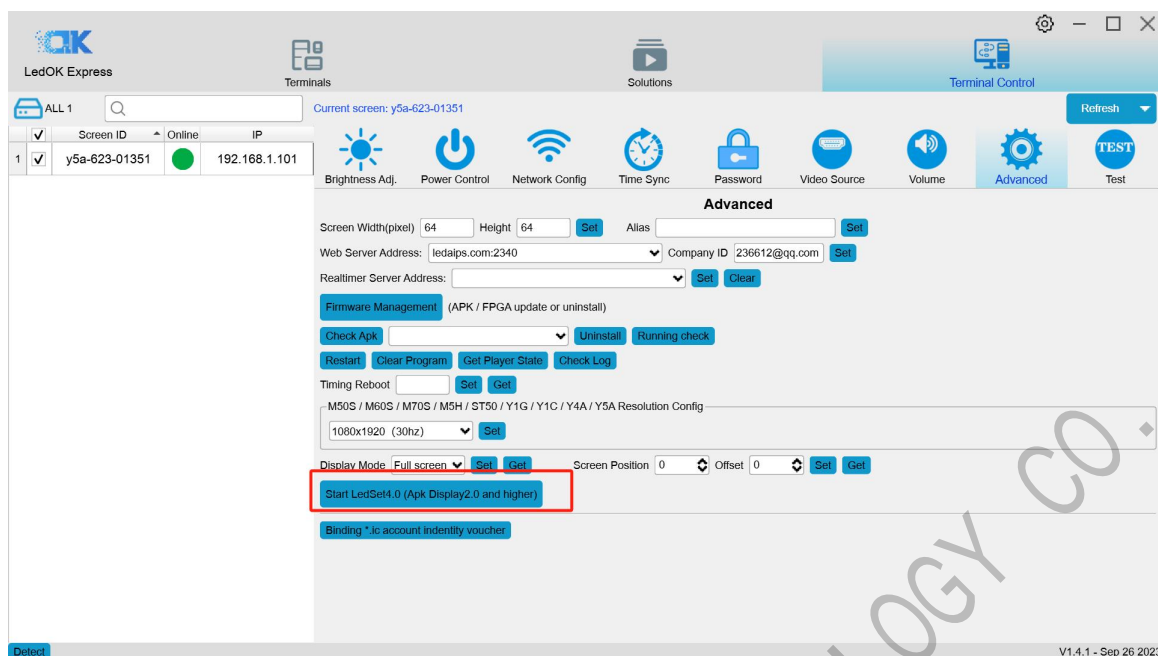

Figure 3-9
Step 2 : Confirm the hardware connection. Open the setup software LEDOK to automatically detect the Sender card, if it is not detected, please click 'detect', as in Figure 3-9:
Step 3: Enter the LedSet4.0 sending card interface to confirm the communication with the sending card and receiving card, as shown in Figure 3-9.